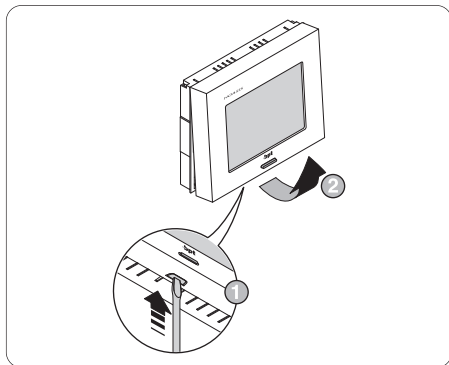
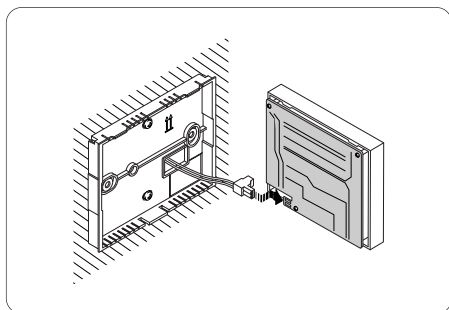

Fig. 10
Fig. 11
- If the display shows a horizontal line, open the unit by inserting a screwdriver into the slot (fig. 10) remove the power supply connector from the printed circuit (fig. 11) and re-insert it after waiting at least 30 seconds.